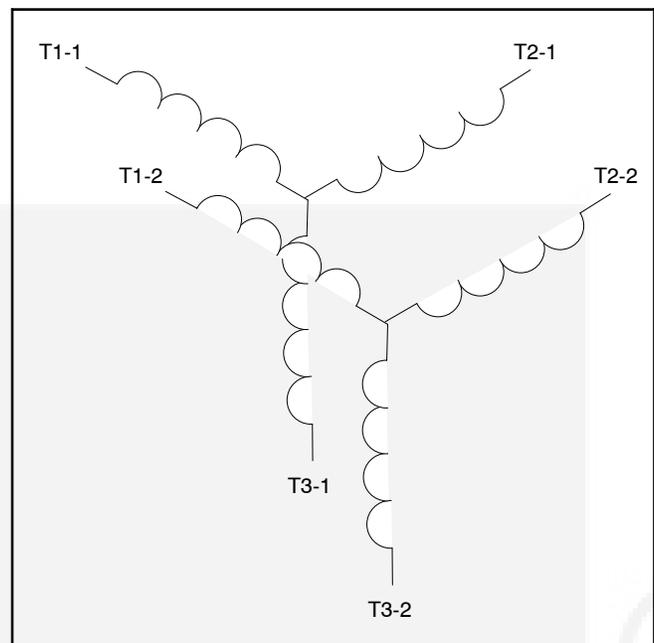
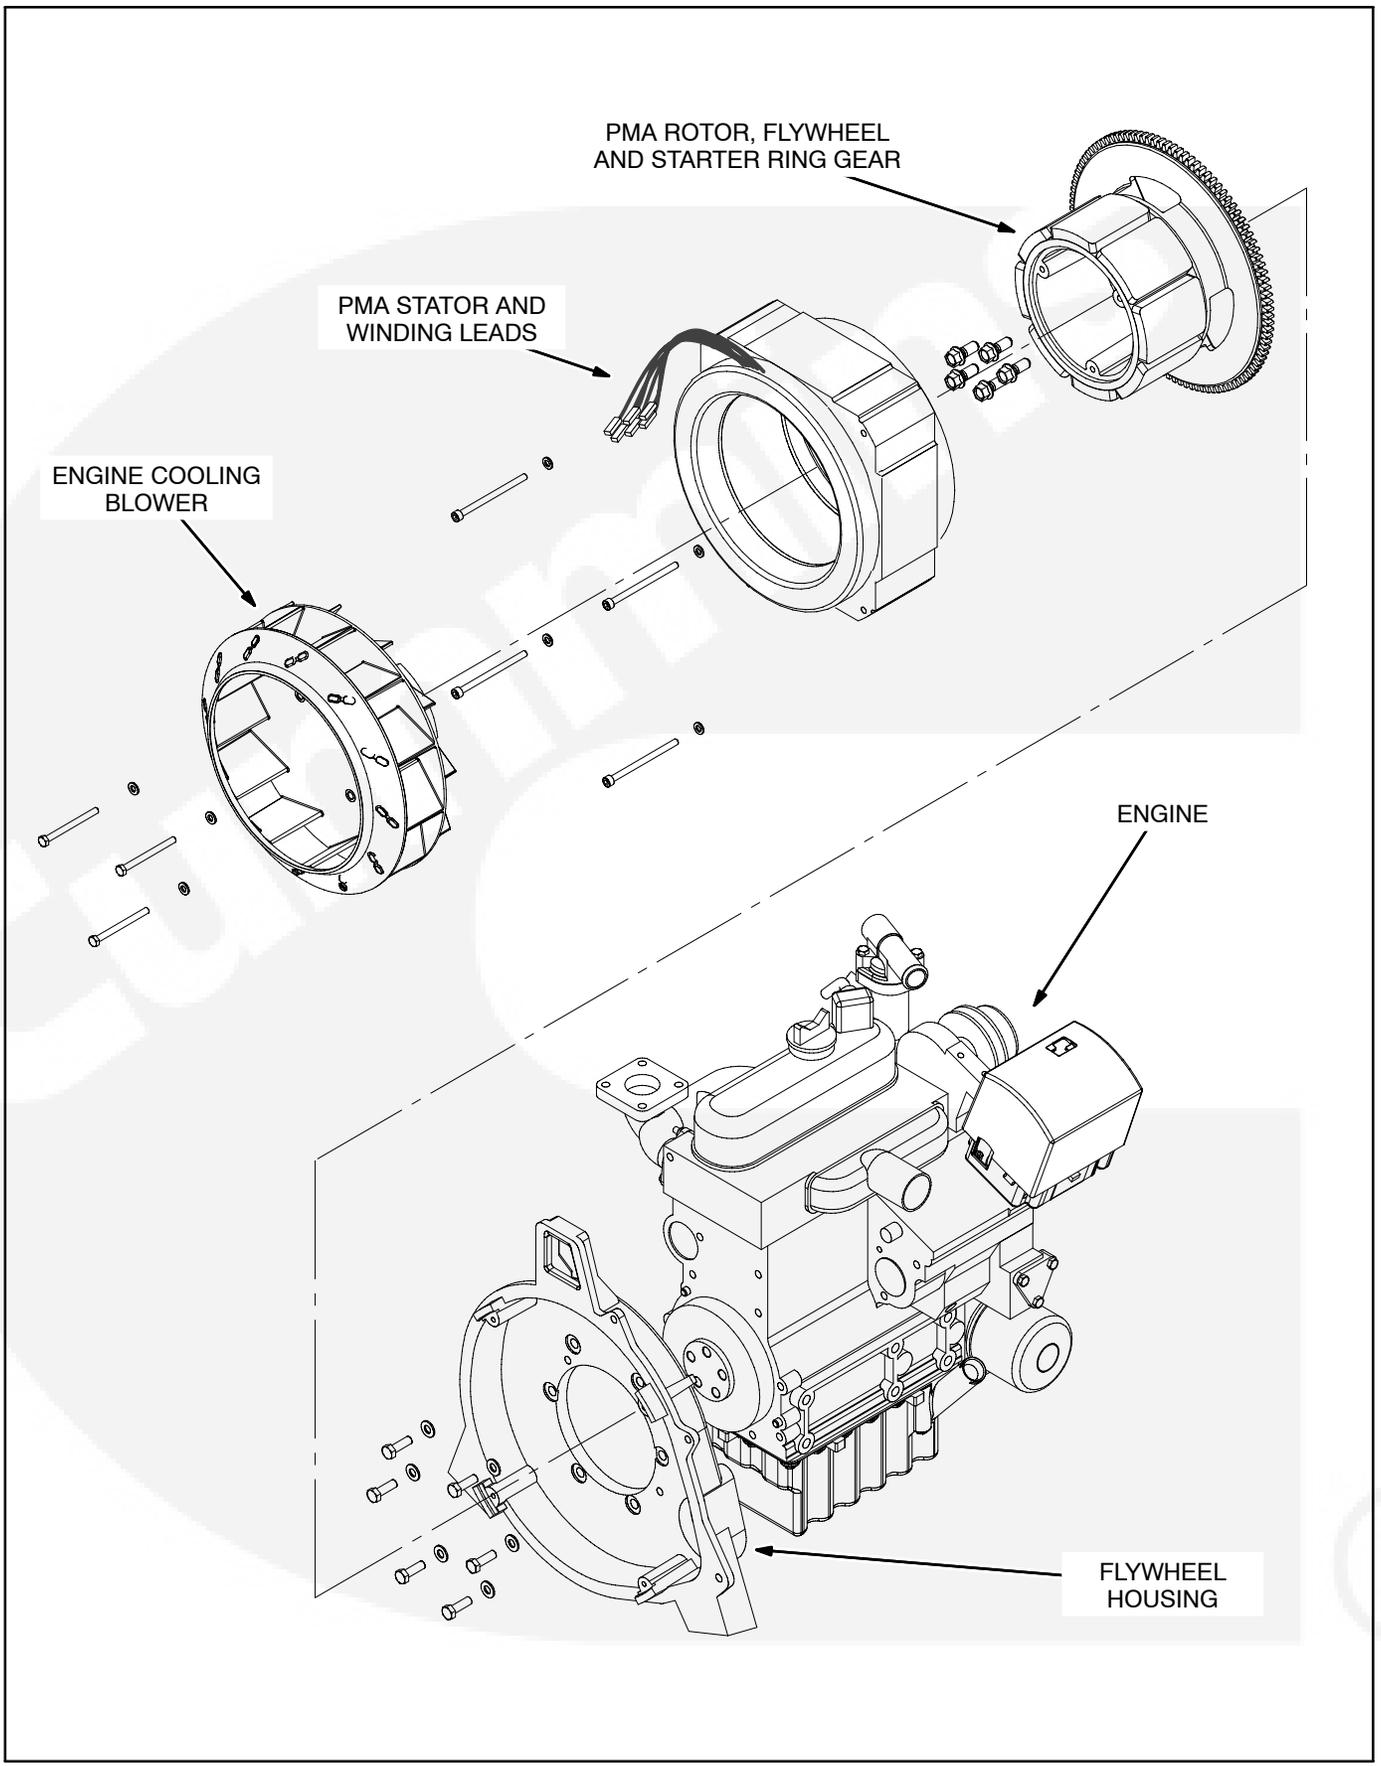

FIGURE 11-1. STATOR WINDING GROUPS
FIGURE 11-2. PMA ASSEMBLY
The genset has an 8-pole permanent magnet alternator (PMA) type of generator with a 3-phase stator (Figure 11-1). The magnets are bonded to the rotor with adhesive. The rotor is a one piece casting with the flywheel. A bearing is not used to support the end of the rotor and there are no slip rings, brushes or excitors. See Figure 11-2.
4. Remove the blower (Figure 11-2).
Installation is the reverse of removal. The stator leads must be oriented as shown (Figure 11-2). The stator must sit square within the four guide ears in the flywheel housing. Tighten all bolts and screws according to *Thread Torques*.
6. Disconnect the PMA stator leads (Figure 11-2).
12. Remove the cooling blower, PMA stator, rotor and flywheel housing from the engine (Figure 11-2).
3. Disconnect the the PMA stator leads (Figure 11-2) to prevent strain when the inner bulkhead is tilted.